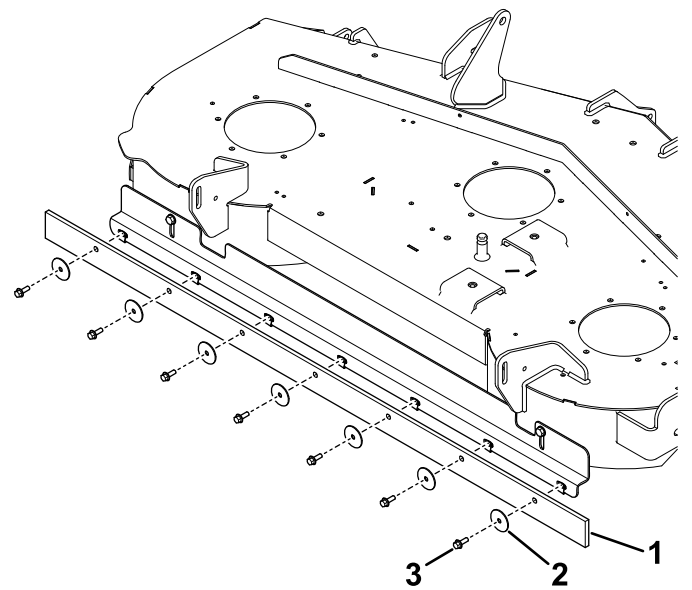

Figure 5
7. Install the wiper to the bracket using 7 bolts (1/4 x 3/4 inch) and 7 washers (Figure 5).